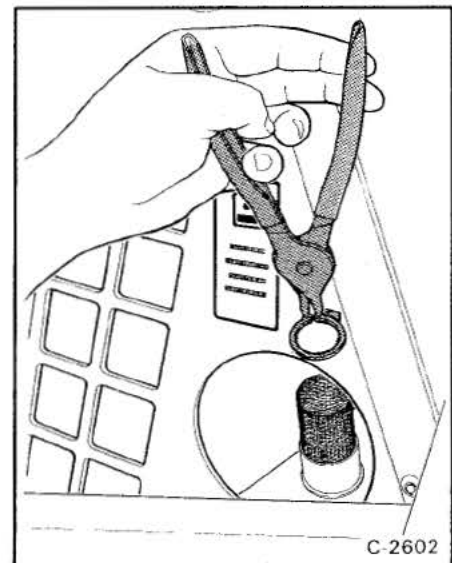

Fig. 67 Snap Ring
3. Remove the snap ring and remove the screen from the fill pipe (Fig. 67). Wash the screen in clean solvent and install it in the fill pipe.